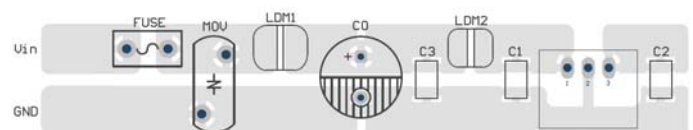

Fig.7 Recommended EMC circuit-PCB layout
- When the products used as the circuit like figure 7, an inductor named as LDM up to 10 μ H is recommended in the circuit to reduce the mutual interference.